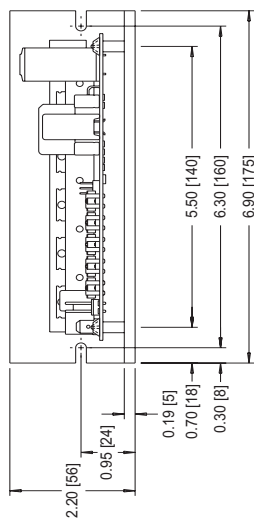

Figure 1. 170-205-0016 Dimensions
- Figure 1. 170-205-0016 Dimensions2